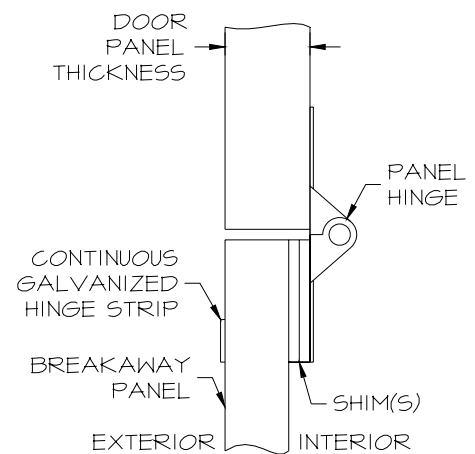

FIG. 4C
- \* If **Breakaway Panel is thinner than door**, shim the bottom half of the Panel Hinge (Figure 4c).